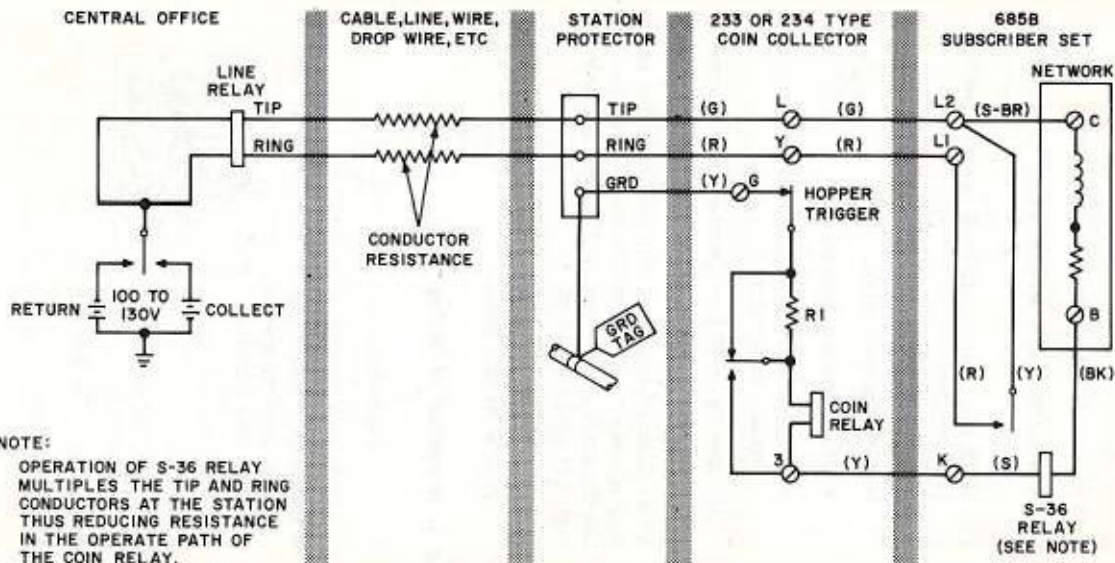
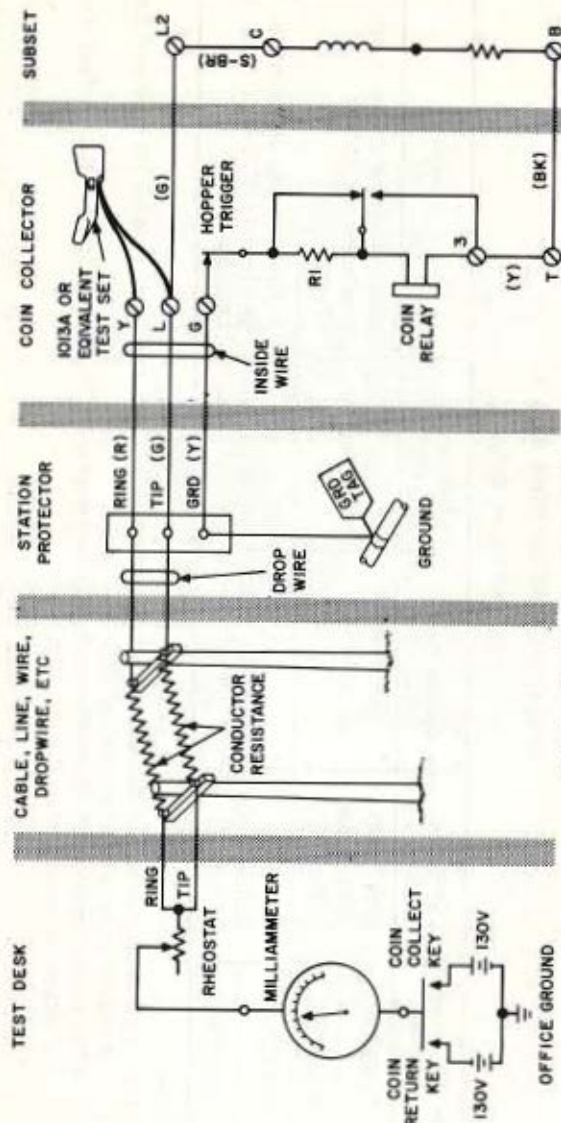

Fig. 5 — Connections and Operate Path of S-36 Relay (Coin First Only)
Fig. 6 — Coin Relay Current Flow Test
- Tables C and D list allowable loop ranges. Table D and Fig. 5 cover use of the 685B subscriber set (S-36 relay) and the 233- or 234-type coin collector for coin first service only. For complete connection information see Section 506-215-404.
- (1) Preparation by type of station:
- Remove upper housing and connect 1013A or equivalent test set to (Y) and (L) terminals as shown in Fig. 6.